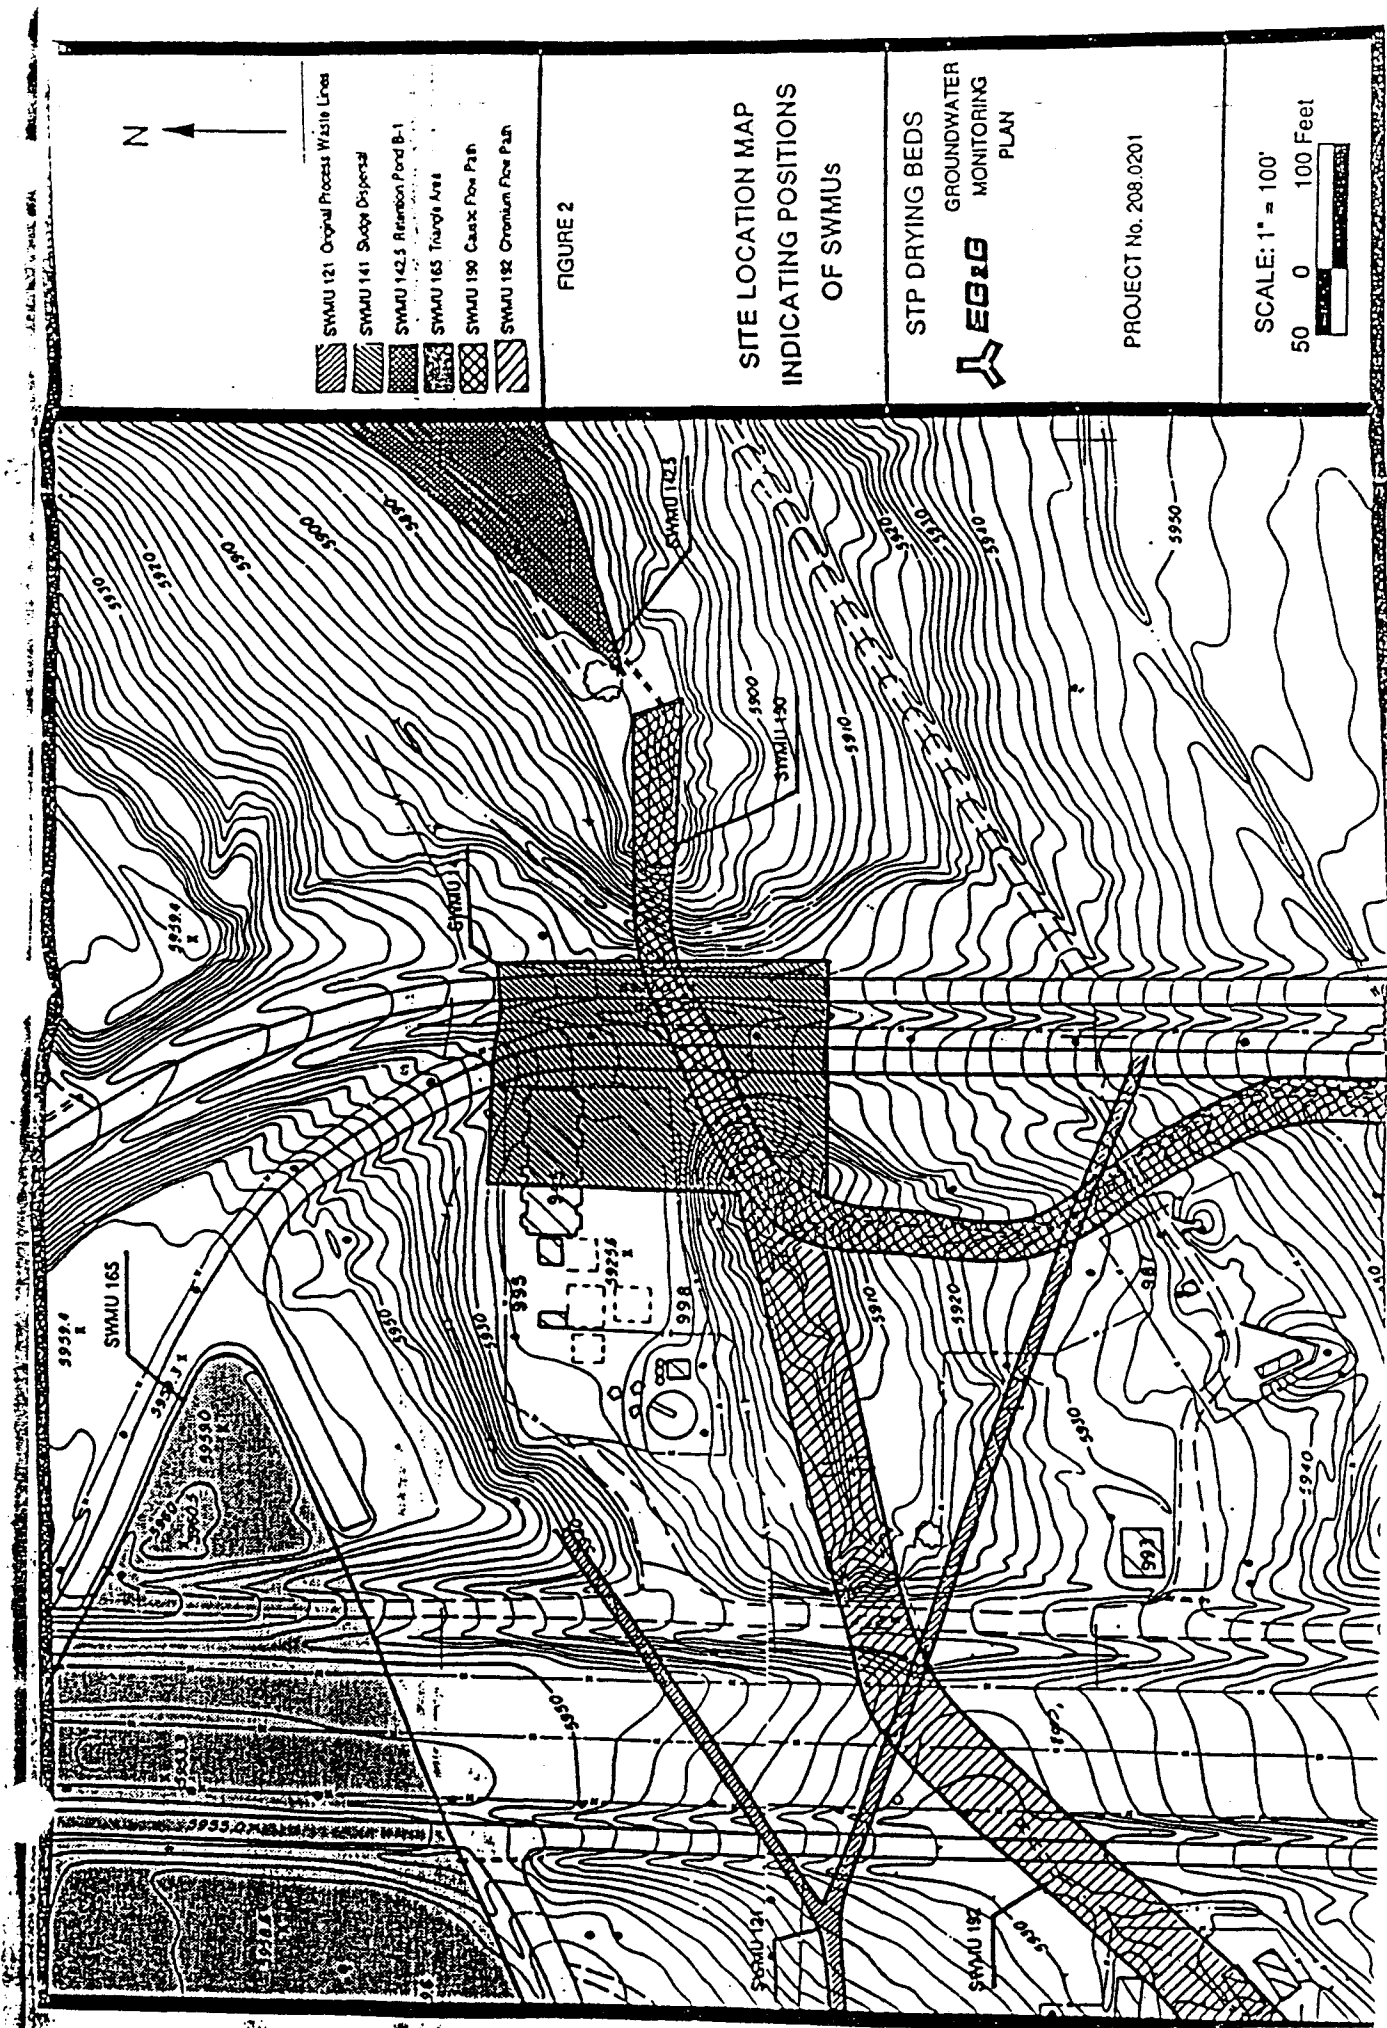

FIGURE 2 - SWMU LOCATIONS
Also present in the vicinity of the OU2 are six (6) Solid Waste Management Units (SWMU) (see Figure 2):
RES will install water collection stations at SW59 and SW61 which are located in SWMU 192, Chromium Flow Path (see figures 2 and 3); no excavation will take place.